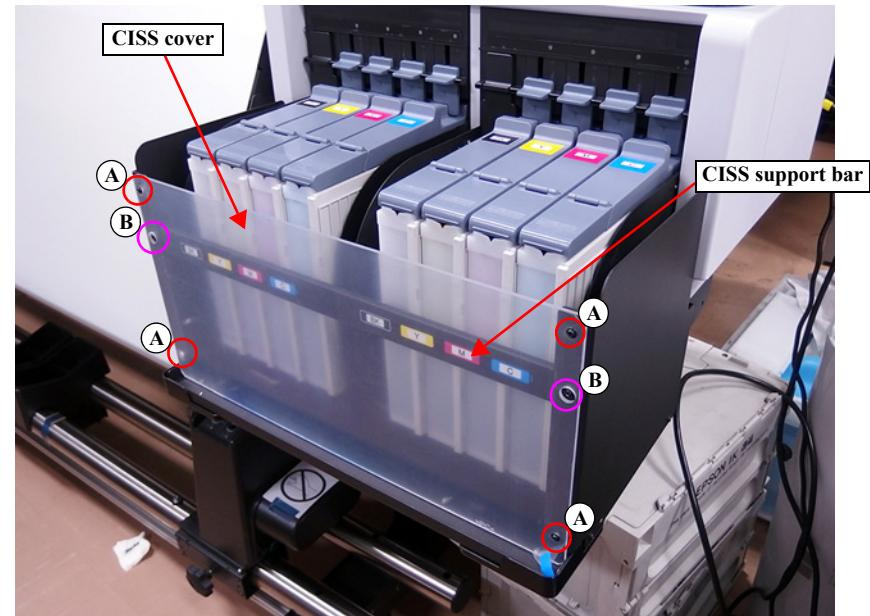

Figure 3-140. Removing the CISS cover and CISS support bar
9. Attach the CISS support bar and the CISS cover. (Figure 3-140)